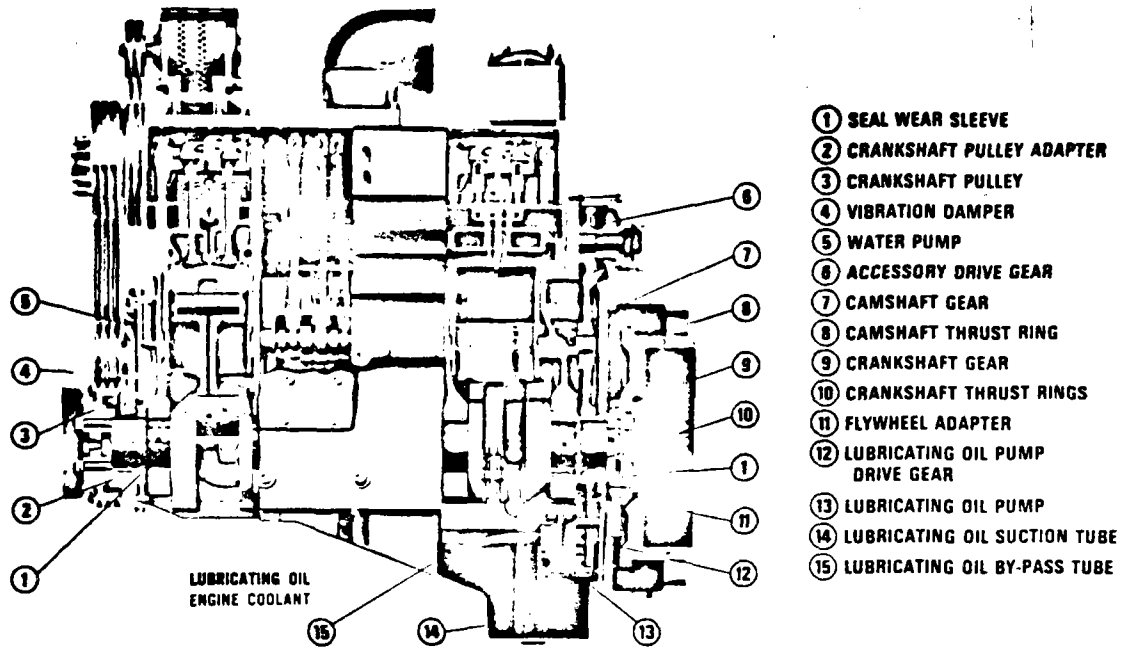

Fig. 5-16, (LWC-16). Lubricating oil and coolant flow — V-903 Engine
Oil drawn from the pan sump through a screen is delivered to the engine working components through oil lines and oil headers which are drilled the length of the block. Drillings in the block, cylinder head, crankshaft and rocker lever shafts complete the oil circulation passages. Figs. 5-16 and 5-17.
1. Oil flows from the cooler and filter to the right bank of the oil drilling at the front of the engine to the front center of the block. Oil flows through the crossover at the front of the block to the left bank and right bank main oil drillings (drilled the length of the block). Fig. 5-16.